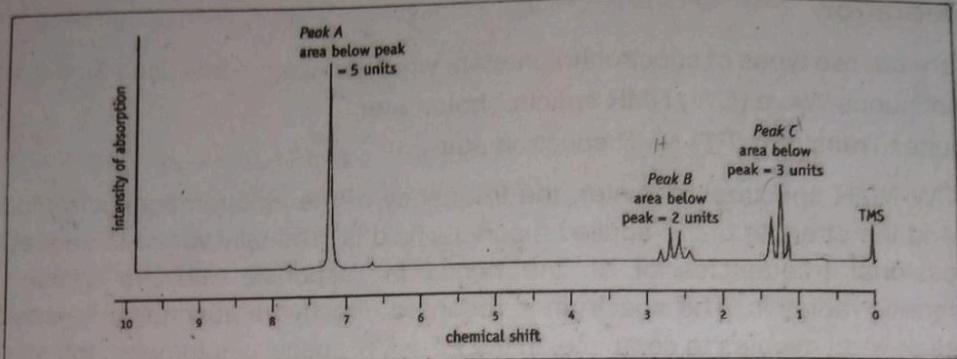

Figure 24.8: The proton NMR spectrum of ethylbenzene, $\text{C}_6\text{H}_5\text{CH}_2\text{CH}_3$
Figure 24.8 shows the NMR spectrum of ethylebenzene $\text{C}_6\text{H}_5\text{CH}_2\text{CH}_3$. This is a proton NMR spectrum: the frequencies correspond to the absorption of energy by ^1H nuclei, which are protons. Notice that there are three major peaks of differing heights. Each peak corresponds to H atoms in a different molecular environment. This area under each peak is proportional to the number of that type of H atom in the molecule. The largest peak (A) corresponds to the 5 H atoms in C_6H_5 , the benzene ring. The second largest (C) corresponds to the 3 H atoms in the –CH₃ group and the third peak (B) corresponds to the 2 H atoms in the CH₂ group.